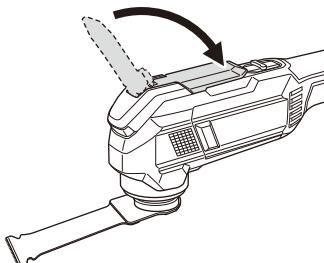

Fig. 11
(3) Push down the lever. (Fig. 11)